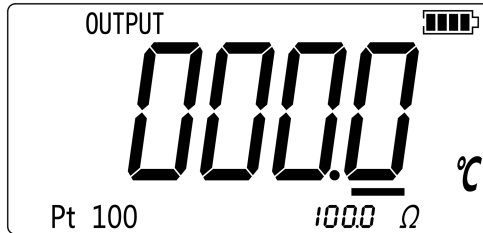

Figure 2.1-4
- Press **RTD** and **OUTPUT** to switch to the thermal resistance output mode. The screen will display as shown in Figure 2.1-4.